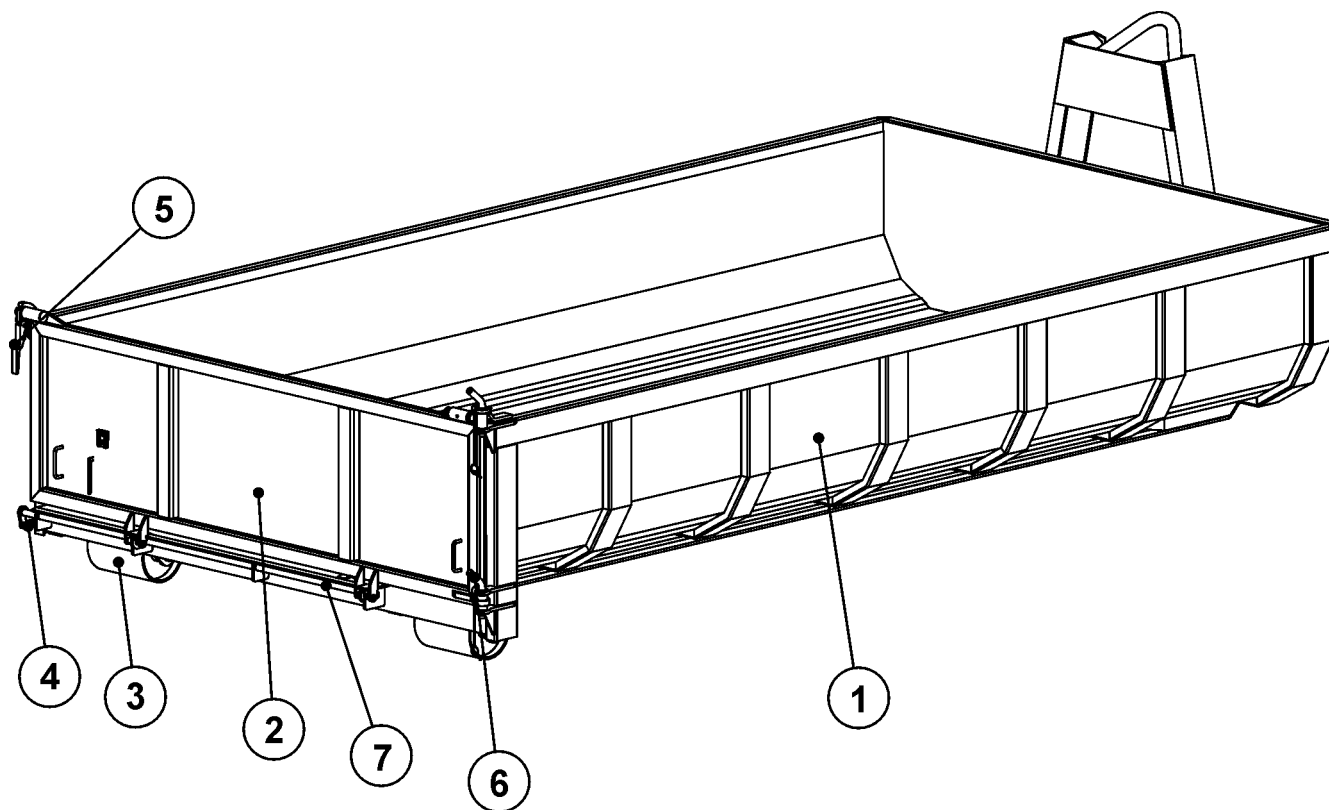

FIG. 8. BUILDING CONTAINER
The building container consists of two stringers with the crate welded to them (1). In the front part of the container two channel bars and a catch eye are welded to stringers. In the rear part of the crate there is a flap (2), which is fastened with hinges to the crate structure. On the left side of the flap there is a lock (5), which protects the flap against accidental opening. In the rear part of the container there are special wheels (3), which are used during coupling/uncoupling of the container. The structure of the building container is shown on the Fig. 8.